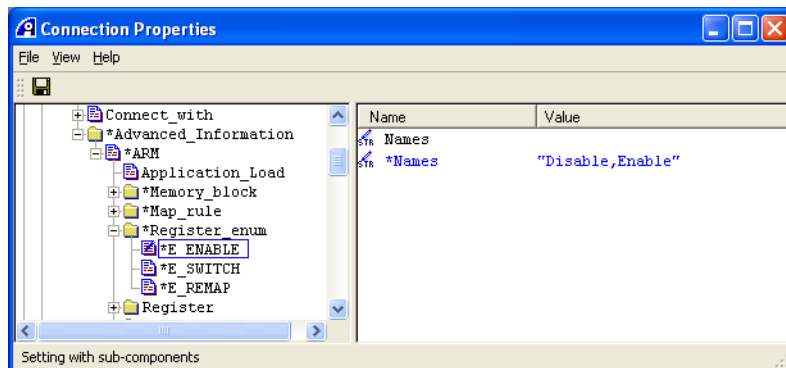

Figure 5-13 Creating enumerations
- f. Set the value of the Names setting in the right pane to **Disable,Enable**. Press Enter to complete the entry. A new *Names "Disable,Enable" setting is created, shown in Figure 5-13.